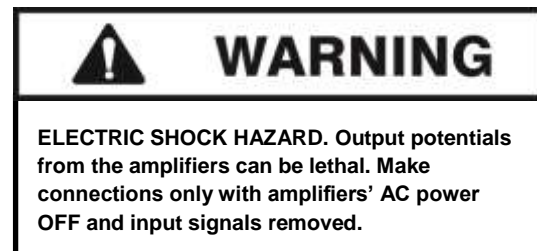

Figure 3.7 – Terminating the Amplifier Input
4. Terminate the input of the Master amplifier using the resistor-terminated barrier block connector (see **Figure 3.7**) or similar device.